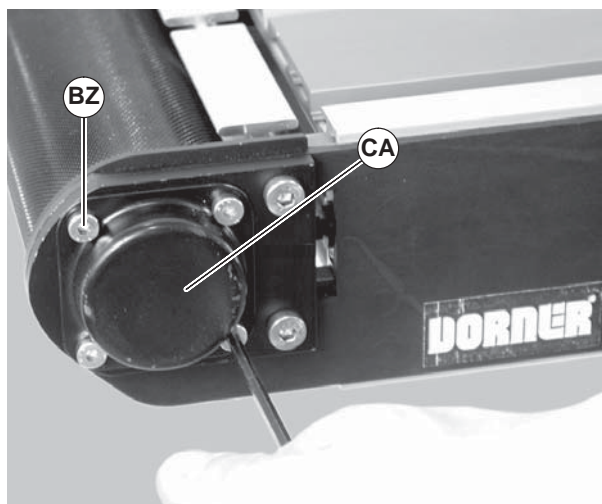

Figure 59
3. Remove four shaft cover screws (Figure 59, item BZ). Remove the shaft cover (CA).